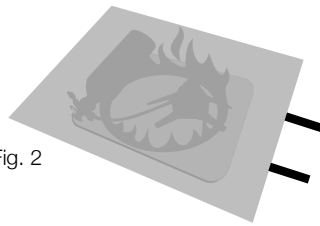

Fig. 2
2. Hold a quick-release tab in each hand and drape the blanket over the flames. Try and cover the stove, bottle and stove board (Fig. 2)